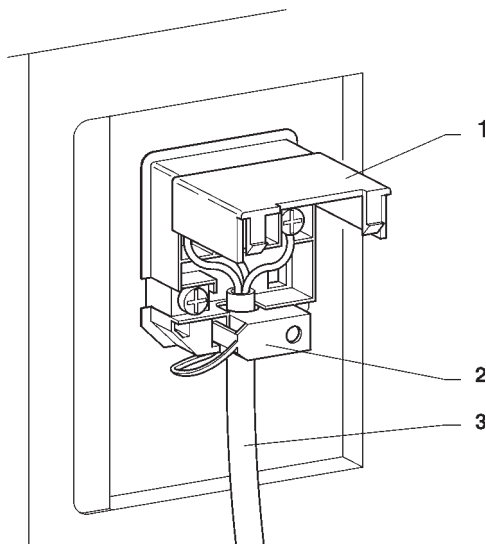

Fig. 10
When selecting tea the doser unit is started, dropping the programmed tea dose into the brewer unit (see Fig. 10). The tea falls into the brewing chamber (1) positioned vertically.